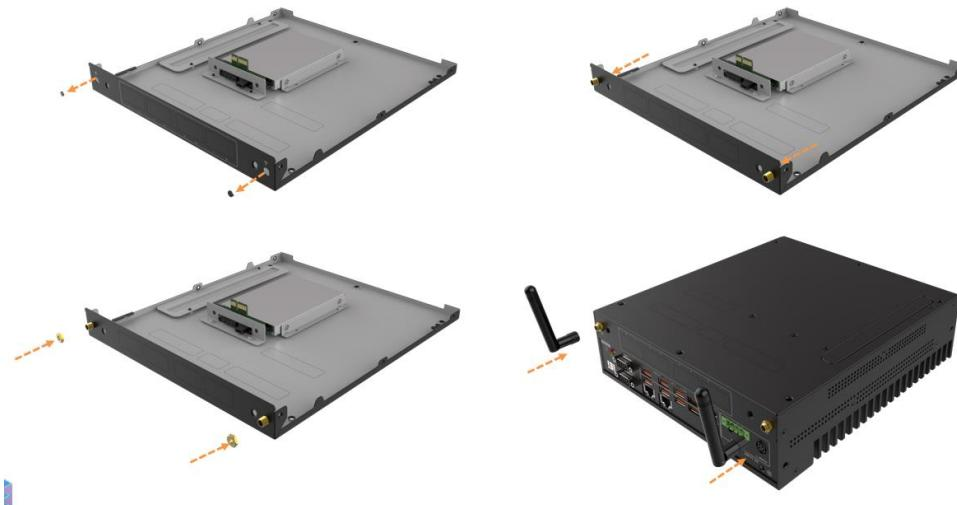

Figure 3-12: Wi-Fi Module and Wi-Fi Antenna Installation
Step 5: Install the external antennas (**Figure 3-12**)